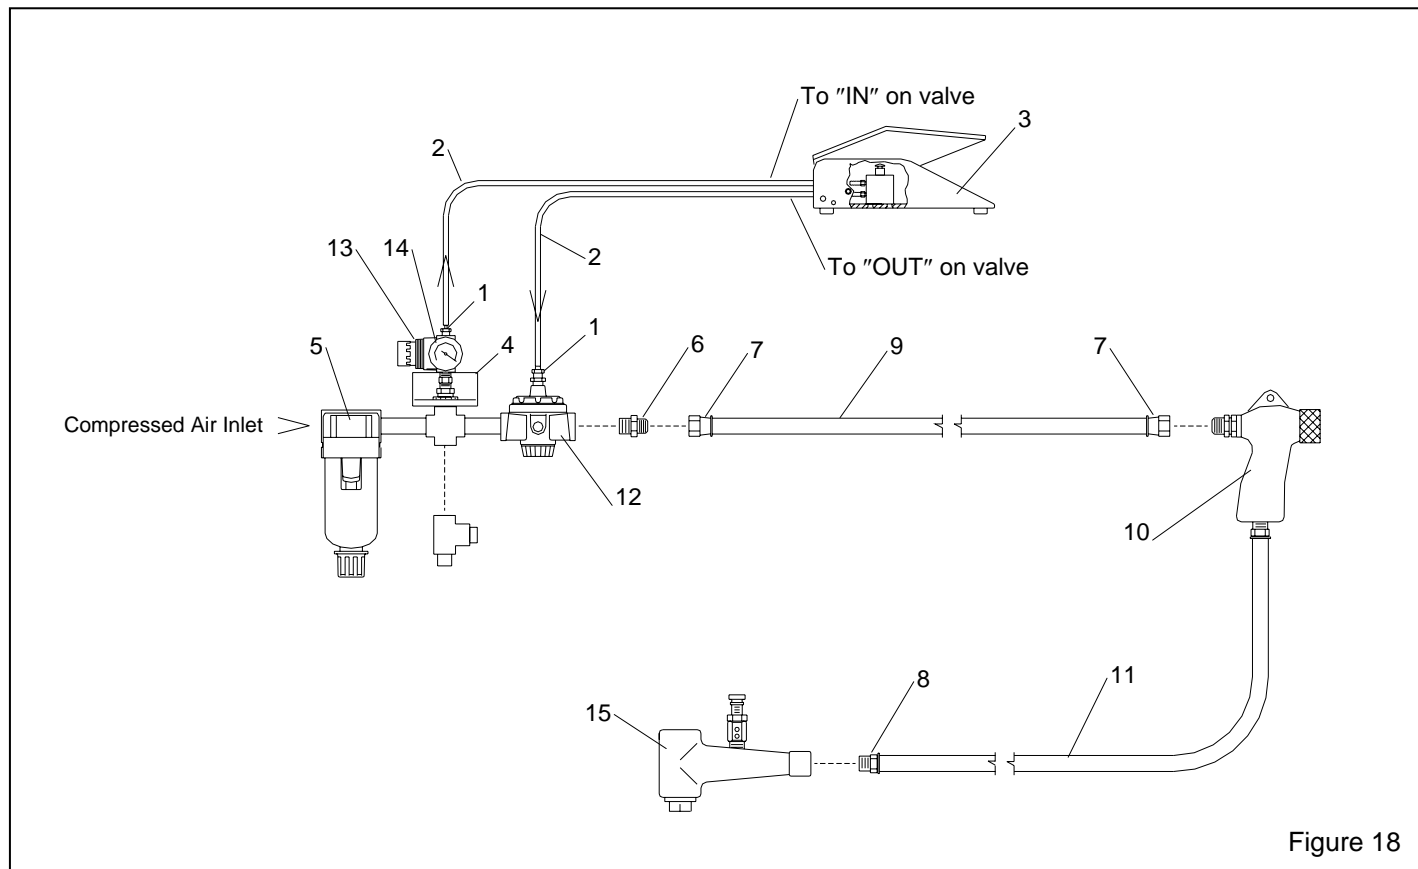

Figure 18
8.6 Cabinet Plumbing Assembly, Figure 18